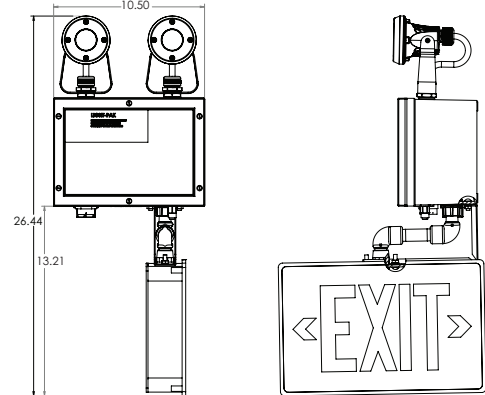

Figure 7. UX72SDHAZ
- UX72SDHAZ – UX series double-sided hazardous location LED exit sign (see Figure 7)